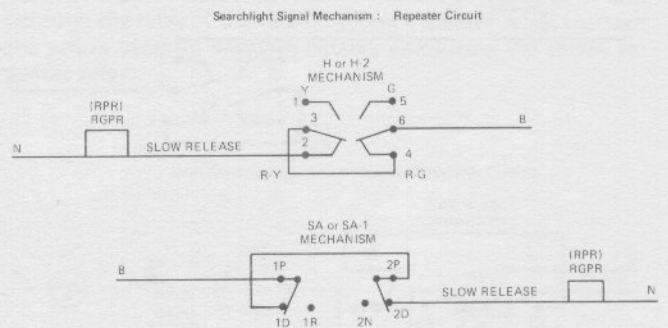

Figure 1: Repeats mechanism at Stop.
**Detailed Operation:** Searchlight Signal Mechanism Repeater Circuits are covered in Figures 1 through 4. Searchlight signal contact configuration and numbering are shown for "H" or "H-2" type searchlight signal heads and "SA" and "SA-1" signal heads. Similar circuits may be applied to the independent front and back contacts of the "H-5" searchlight signal unit.
The following refers to Figure 1 for the "H" or "H-2" head: When the searchlight signal mechanism is in the (red) Stop position, battery is applied through the signal mechanism contact 6 to 4, through connection from 4 to 3 through contact 3 to 2 through the coils of the (RPR) red repeater relay to negative battery energizing the red repeater relay. Simi-